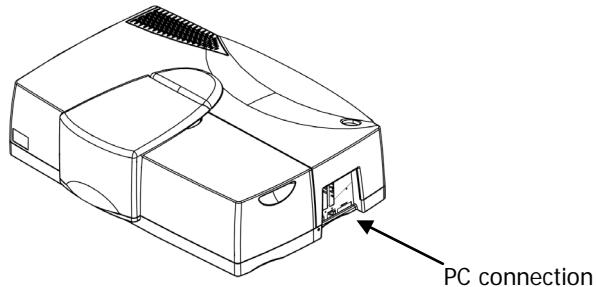

Figure 11 PC connection
- Ø The PC is connected using the connection marked COMPUTER or the USB connection marked on the right side of the instrument, as shown in Figure 11.